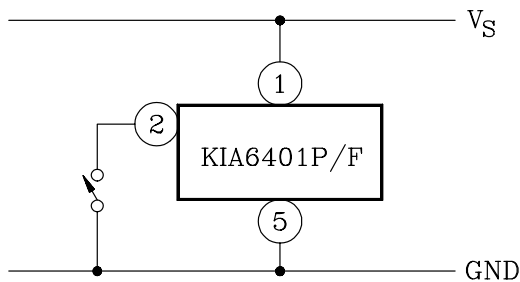

Fig. 1a
Usually PIN ② is used at an open state, but in the KIA6401P/F the TRIGGER IN terminal can prohibit oscillation and also can change the initiation supply voltage ( $V_{si}$ ). When the KIA6401P/F is oscillating ( $V_{sus} < V_S$ ), if PIN② is connected to GND as shown in Fig. 1a, the KIA6401P/F can stop oscillating. Further, the oscillation of the KIA6401P/F can be stopped by connecting PIN② to voltage  $V_I$  through the resistor  $R_I$  as shown in Fig. 1b.